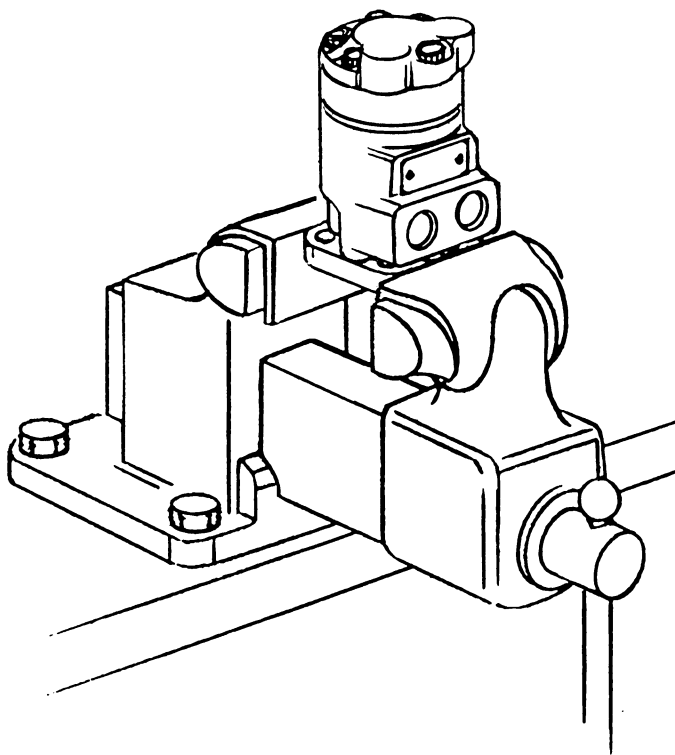

Figure 1
- 1 Place motor in vise and clamp across edge of flange with output shaft down. When clamping, use protective device on vise such as special soft jaws, pieces of hard rubber or board. See Figure 1.